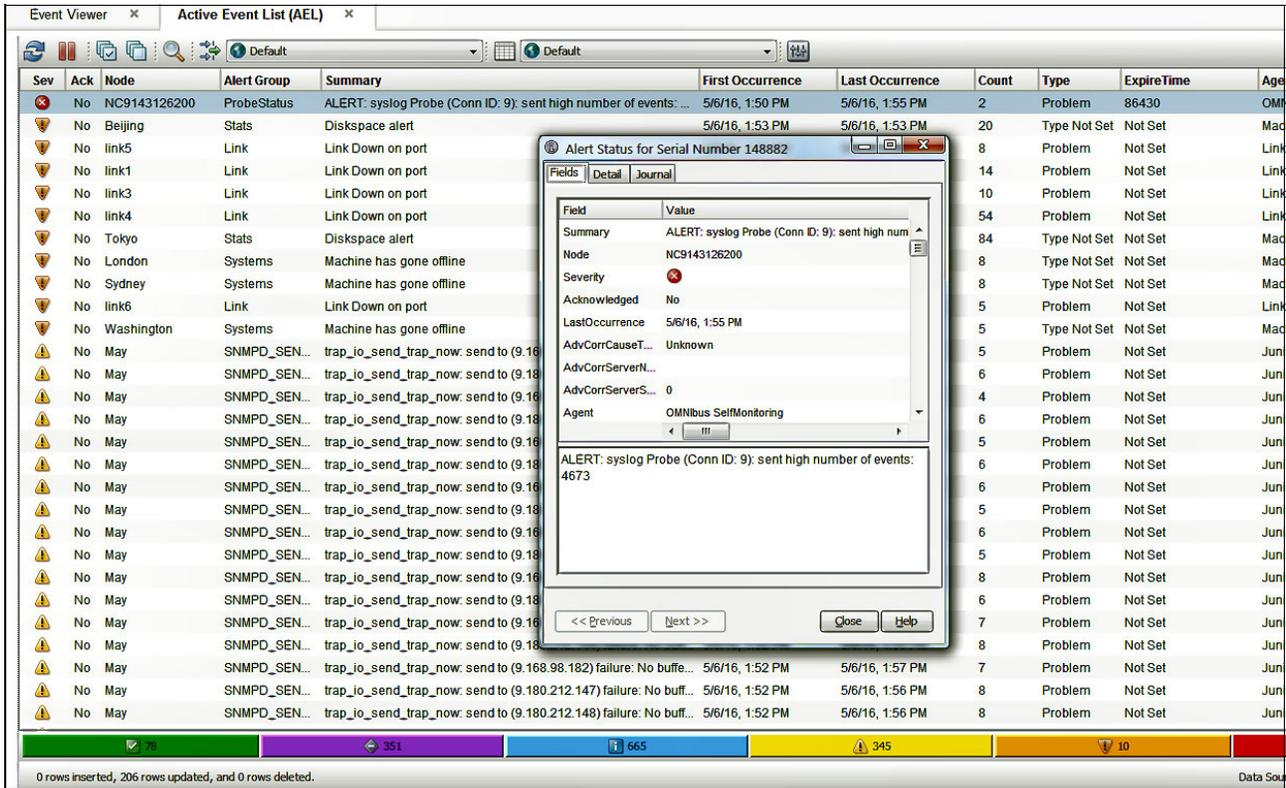

Figure 7-2 Active Event List
5. Jane reviews the Active Event List (AEL) dashboard. By using this dashboard, she can view event details and run context sensitive tools on events. She double-clicks the alert record to display details, as shown in Figure 7-2 on page 136.